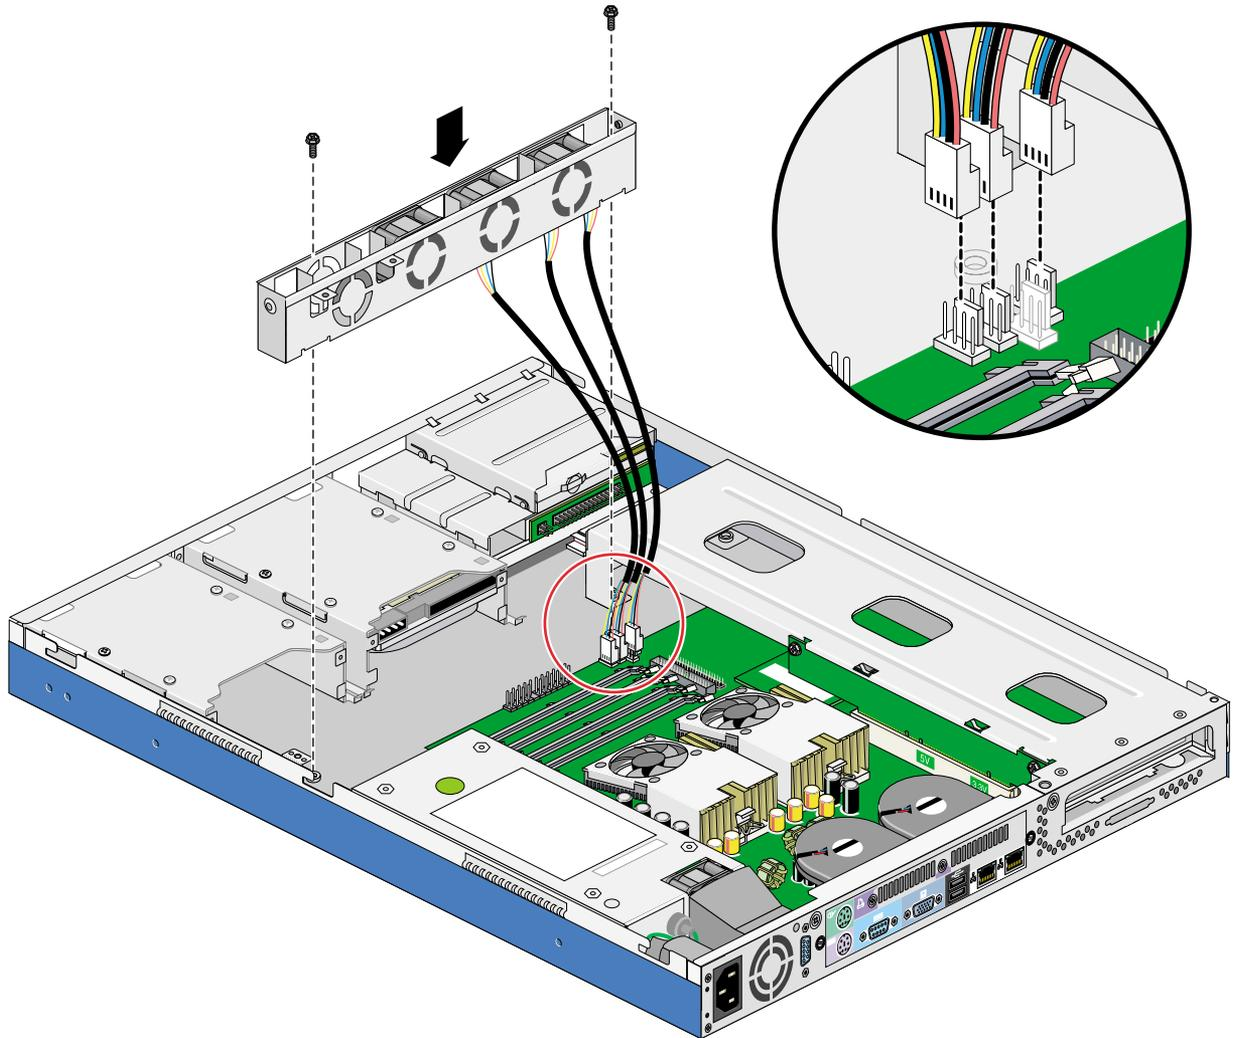

Figure 2-11 Installing the Chassis Fan Cage
3. Connect the three fan connectors to the system board connectors CN19, CN20, and CN28, as shown in Figure 2-11.